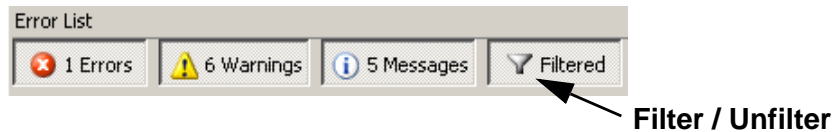

Figure 2-41 Error List Window Filtered Button
3. To re-display (cancel the filtering of) any messages you have previously filtered out, click the *Filtered* Button (Figure 2-41).